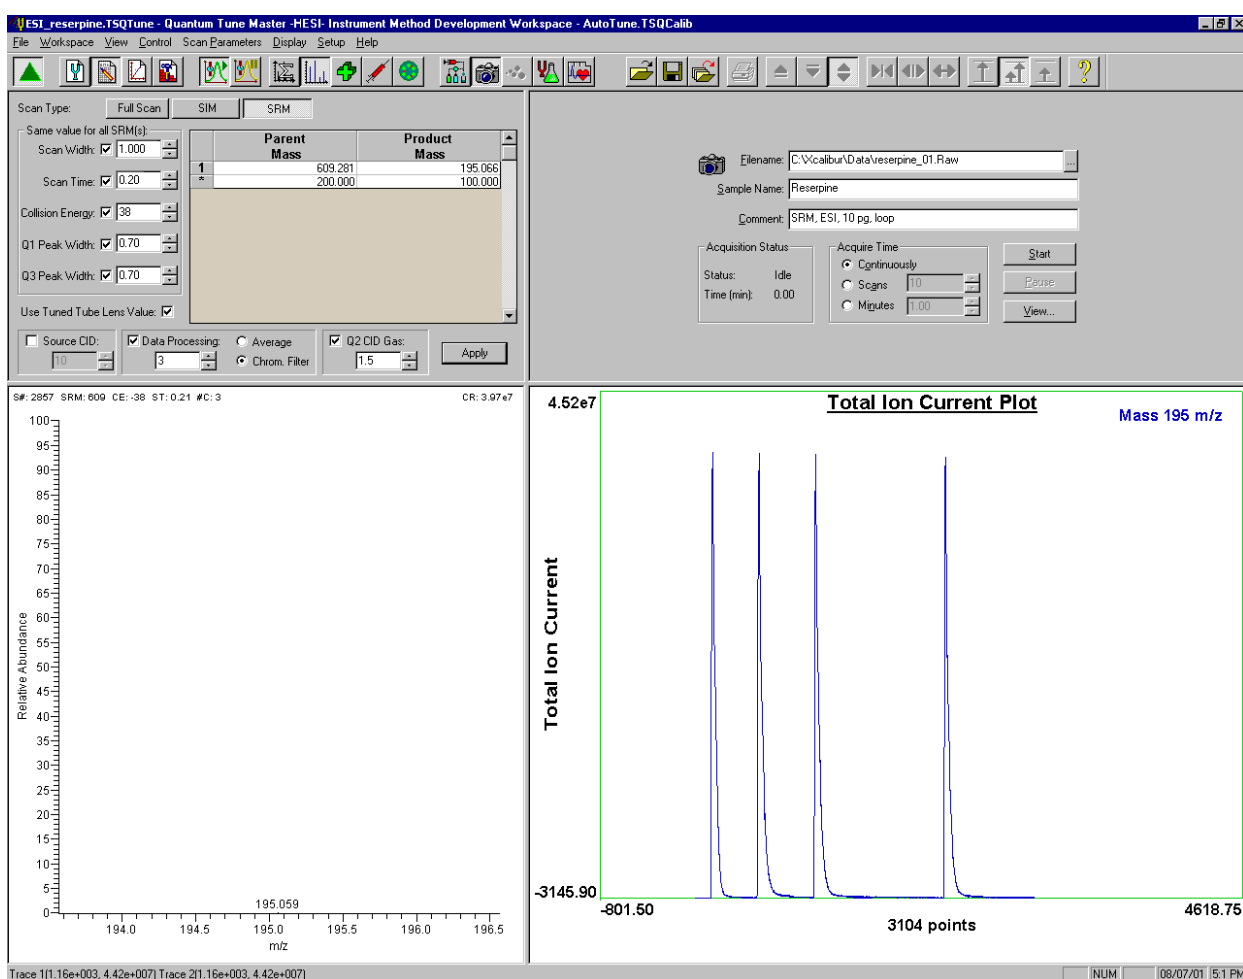

Figure 5-10. Instrument Method Development workspace, showing an SRM scan acquisition
15. Click on **Stop** in the Acquire Data dialog box to end the data acquisition. See Figure 5-10.